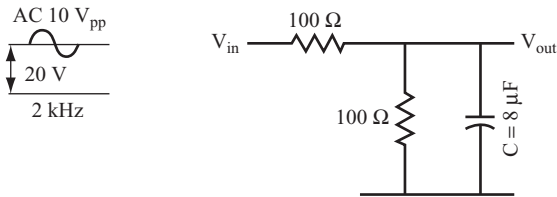

FIGURE 6.56
4. Use the circuit shown in Figure 6.56.